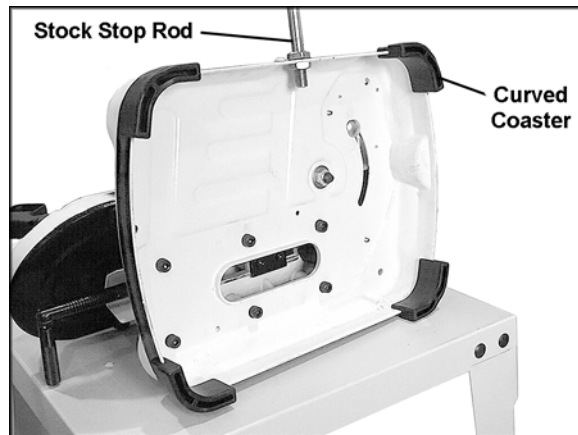

Figure 2
The band saw can be operated without securing it to a table or workbench, using the four coasters provided. **Model PB-85:** Place the band saw on its side and install the four curved coasters (Figure 2) by pushing them onto the bottom edges as shown. **Model PB-150:** push the four round coasters into the circular recesses beneath the cast iron base (Figure 3).
With the band saw still resting on its side, install the stock stop. See Figure 2.
2. Re-install the outer hex nut onto the threads of the rod from inside the base, as shown in Figure 2.